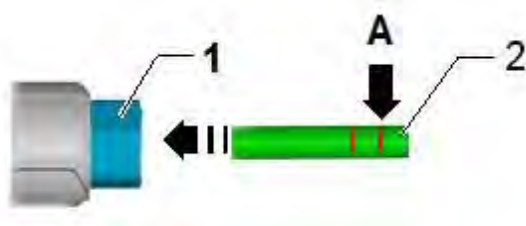

Figure 15
- Referring to Figure 15 - Exerting moderate pressure, push the x4 air pipes -1- all the way into the solenoid block connector -1- **IMPORTANT:** *Ensure the hoses are fitted back into the correct locations within the solenoid block*